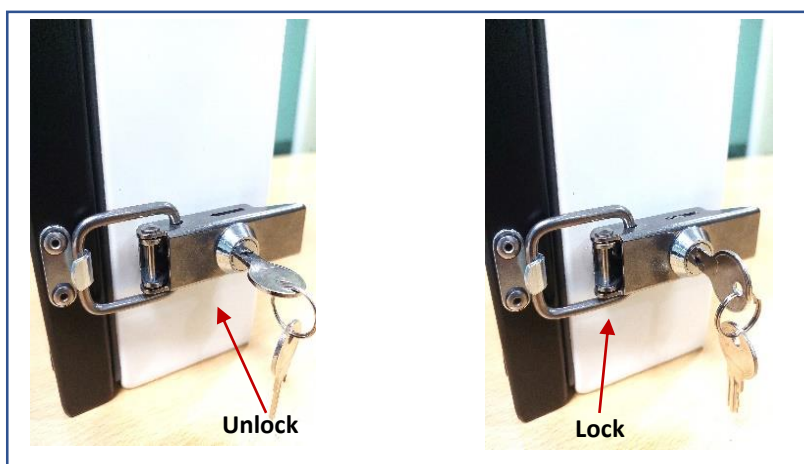

Fig.18
- ✔ Lock both the Toggle Latches. **Fig.18**